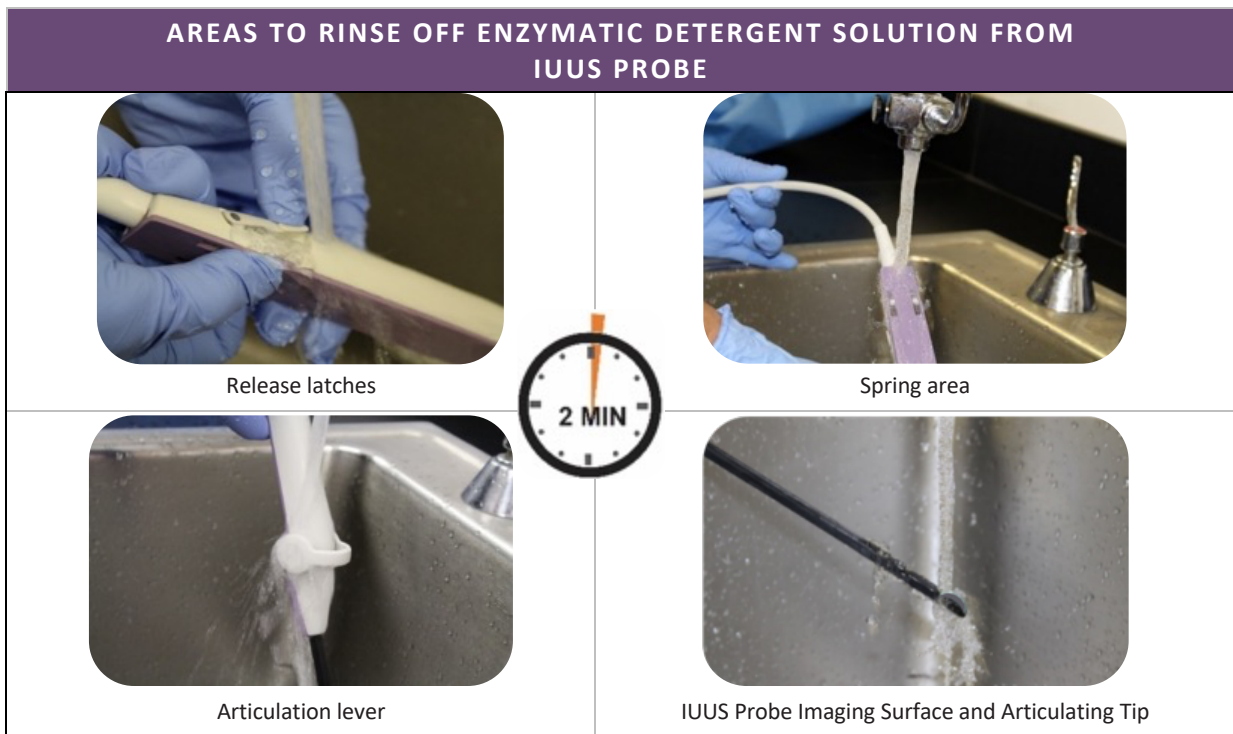

Figure 4-4 Rinse off the release latches, spring area, articulation lever, and tip. Use of purified, distilled, or demineralized water is recommended.
1. Thoroughly rinse off the enzymatic detergent solution from the IUUS Probe with lukewarm (95°F to 104°F [35°C to 40°C]) water (purified, distilled, or demineralized is recommended). Rinse all parts of the IUUS Probe that were exposed to enzymatic detergent solution including mechanisms, see Figure 4-4.